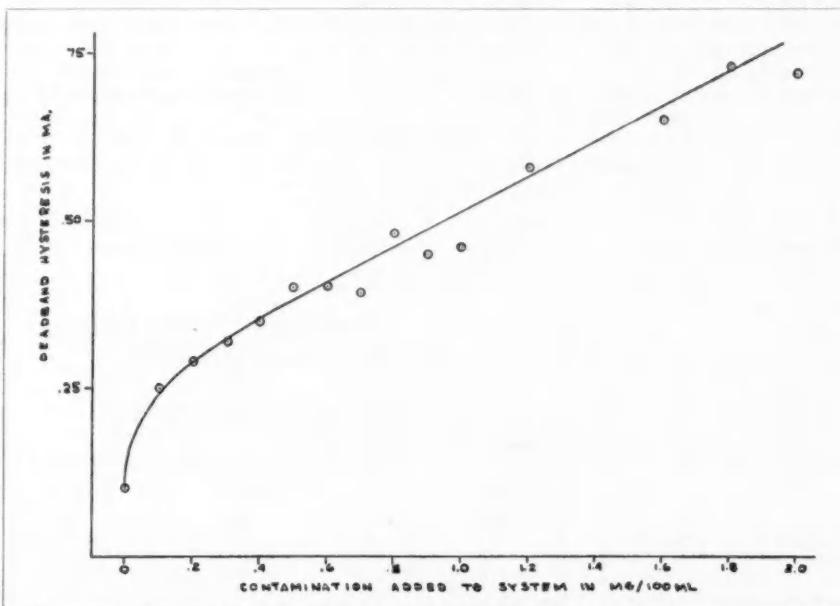

Fig. 4 — Calibration curve of servo-valve contamination meter.
3. *Calibration Test Results* — The hysteresis in the null or deadband region of the valve was noted for each addition of artificial contaminant and shown in Fig. 4. The initial cleanliness of the fluid in the calibration test system is not known before contamination is added; therefore, the value of hysteresis in theoretically clean fluid must be placed on the curve with respect to the added contaminant. (Theoretically clean fluid is defined as a particular fluid condition with respect to contamination that has no observable effect on servo-valve performance.) The curve of Fig. 4 may be adjusted for the theoretically clean fluid in the following manner:
(1) Determine the amount of inherent hysteresis in the valve apart from contamination effects on the slide and sleeve. This may be accomplished by conducting a number of deadband hysteresis tests in a hydraulic system to which contamination has not been added and that has been filtered for extensive periods of time with effective filters. These tests should be conducted with the return pressure orifice removed from the valve (maximum slide positioning pressure per unit input current).
(2) Extrapolate the calibration curve of Fig. 4 at the lower end down to the value of deadband hysteresis equal to that in the clean fluid tests.
(3) Adjust the calibration curve so that the point of theoretically clean fluid corresponds to zero contamination added.
The amount of artificial contaminant that a normal system valve can tolerate can be noted from Fig. 4. It is based on deadband hysteresis limits established by the servo system design and performance requirements. At this level of contaminant the servo-valve contamination meter reading can be noted that will represent servo-valve failure level. Because of the erratic nature of contamination and the possibility of rapid increases, a safe operating level should be established at a value well below the failure level. A suggested safe operating level would be the level of contaminant that causes the servo-valve contamination meter to exceed the performance requirements for the system.
The calibration curve of Fig. 4 is based on a particular known size, material, shape, and weight of contamination, while that in a system would probably be different under various operating conditions. Since the servo-valve contamination meter is sensitive to contamination in the same manner as the valves in the system and a correlation between them has been noted from Fig. 4, the meter measurement is seen to be independent of the type of contaminant. The meter will measure effects of contamination, which is of prime importance with respect to system performance.